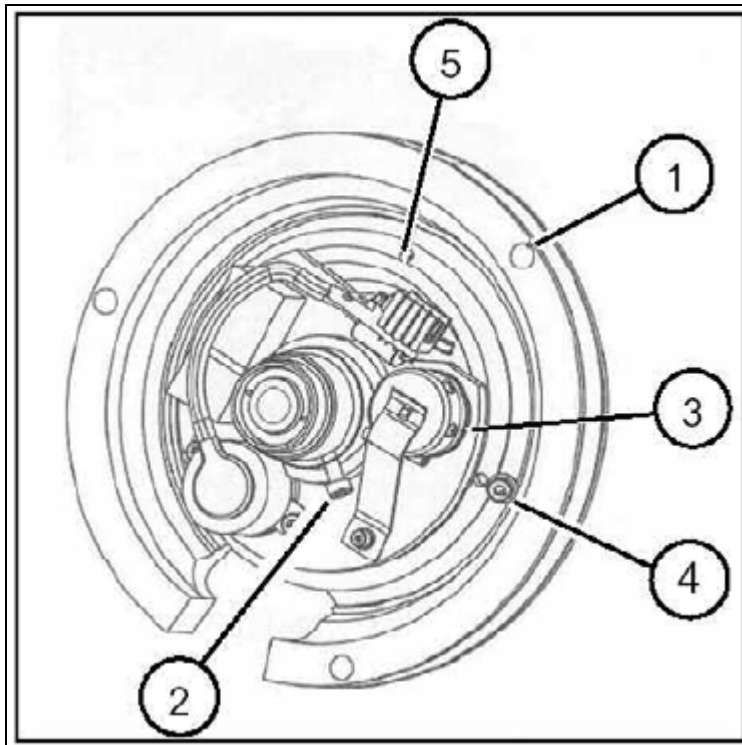

Fig. 14: Replacing the camera and the I. I. optics_2
1. Loosen the clamping screw (4/Fig. 14 / p. 48).
2. Loosen the lock ring (5/Fig. 14 / p. 48).
7. Retighten the clamping screw (4/Fig. 14 / p. 48).
1. Loosen the focus ring clamping screw (2/Fig. 14 / p. 48).
2. You can adjust the optimum sharpness by turning the focus ring (3/Fig. 14 / p. 48).
4. Retighten the focus clamping screw (2/Fig. 14 / p. 48).